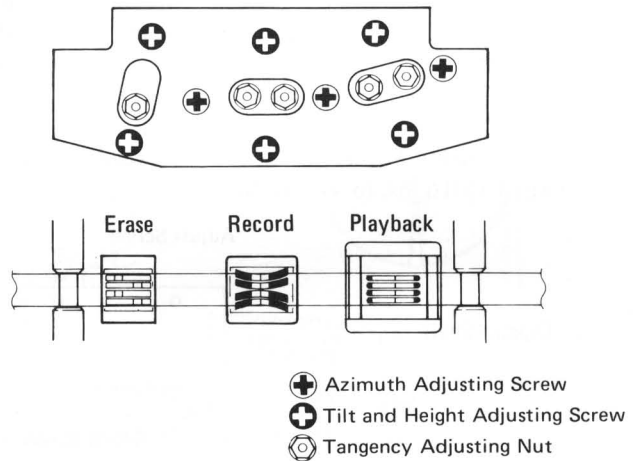

Fig. 5-13
1. Check that the play head azimuth adjustment is correct. See 5-3-3 (1).
4. Adjust the azimuth screw (see Fig. 5-13) so that the phase relationship between tracks 1 and 3, then between tracks 2 and 4, is within 45 degree on the oscilloscope, and so that the maximum value in on both tracks is approximated on the AC voltmeter.